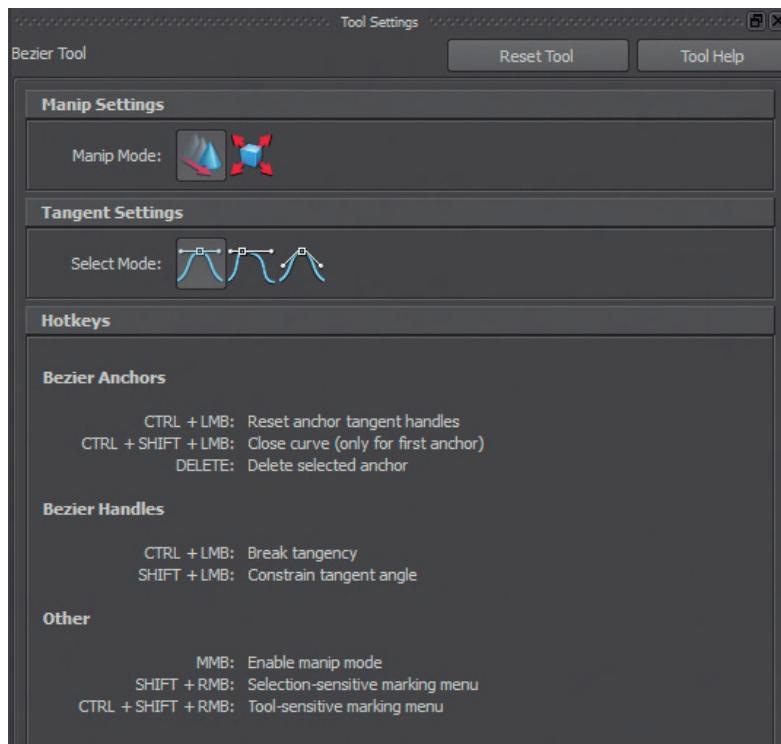

FIG 3.70 The Bezier Curve Tool as an editing tool.
Step 3: Edit the curve as needed with the Bezier Curve Tool. With the curve selected activate the Bezier Curve Tool (Create > Bezier Curve Tool (Options)). The options for the tool will appear across the left side of the interface (Fig. 3.70). Now any of the Bezier anchors or Bezier handles can be selected and adjusted as needed. Be sure to exit the tool when done by activating any other tool (like the Move Tool).